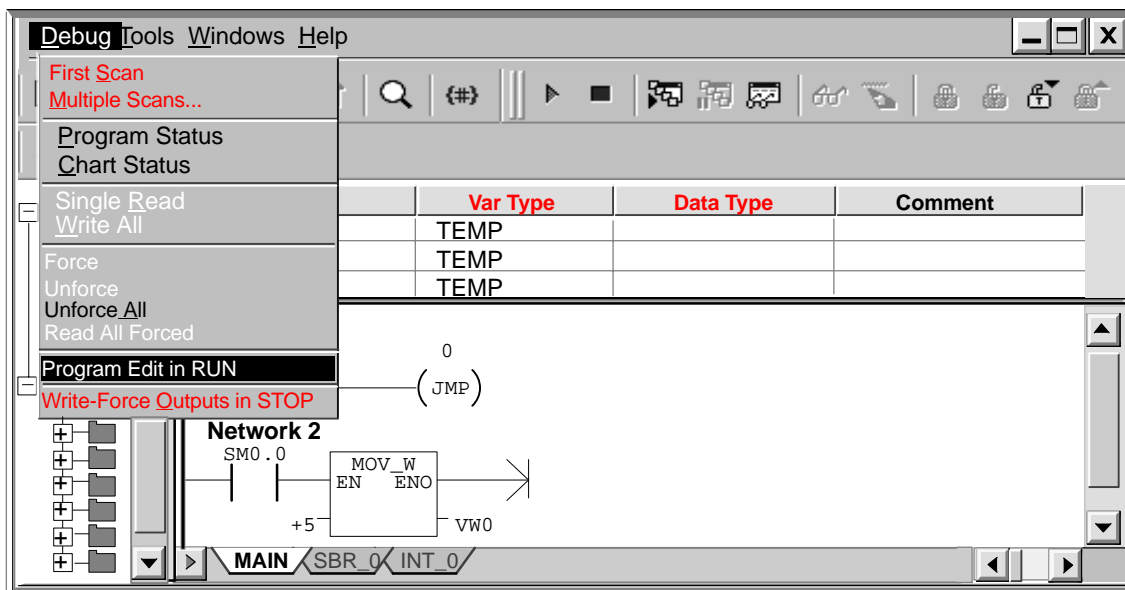

Figure 4-22 Displaying the Status of a Program in Function Block Diagram
1. Select **Debug > Program Edit in RUN**. (Figure 4-22 shows the Debug menu on the right side of the screen.)